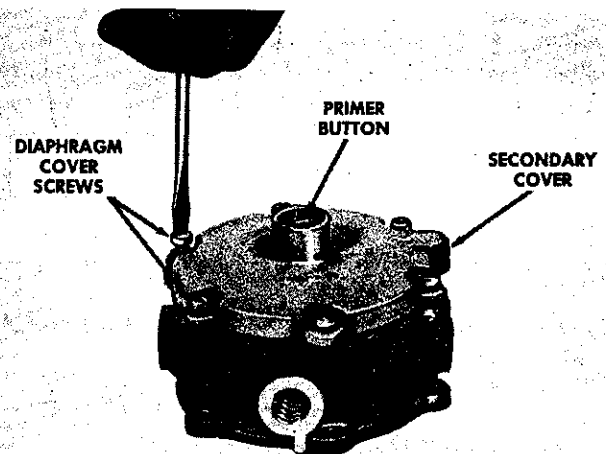
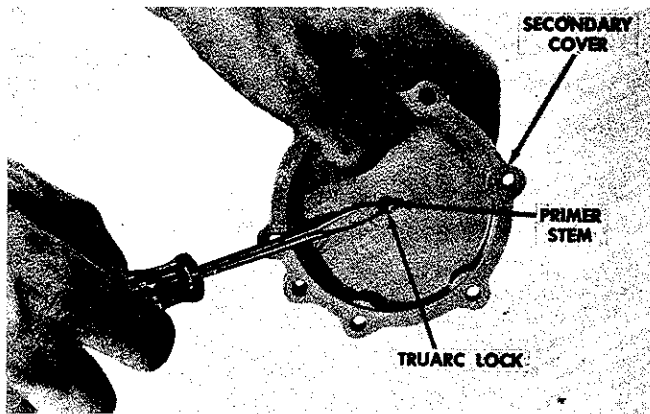

FIGURE 9
FIGURE 16
7. Turn regulator over and remove the six secondary cover assembly screws. Figure 9.
12. Examine primer button located in the center of the secondary diaphragm cover as shown in Figure 9. Depress the button and then release it. The button should return to its original position. If primer is operating normally, no further service is required. Should a part be rusted or corroded, remove the truarc lock, as shown in Figure 16, and replace parts as needed, then secure by replacing truarc lock.
2. Install primer button assembly in secondary diaphragm cover by inserting plunger through small end of spring and depressing plunger far enough to secure with truarc lock. Figure 16.